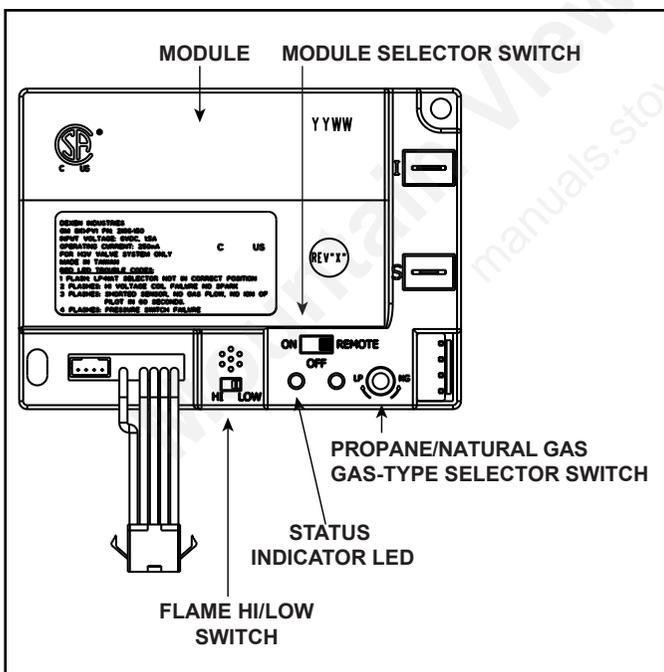

Figure 3.4 Control Module
1. The control module has an ON/OFF/REMOTE selector switch that must be set. See Figure 3.4.
- Locate the module selector switch. (See Figure 3.4).